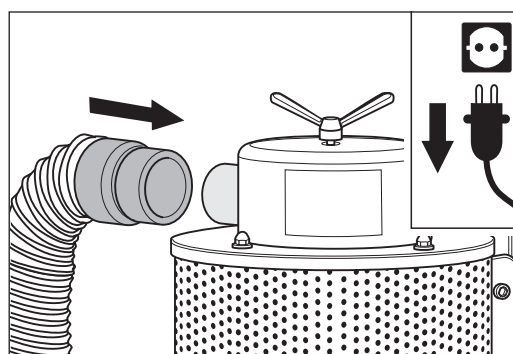

Fig. 59 Mount the suction hose to the neck of the upper part of the separator.
- 5 Mount the suction hose to the neck of the upper part of the separator (fig. 59).